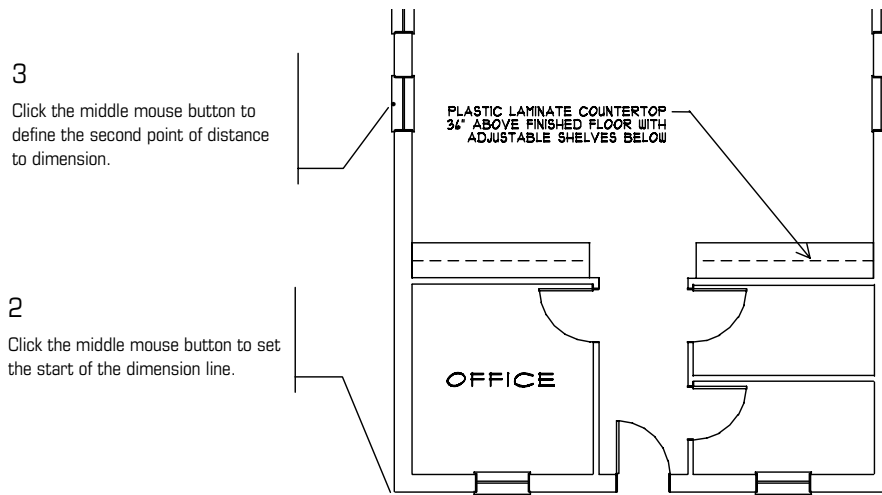

Figure 4.9: Placing the first dimension on the drawing
3. Move the cursor to the snap point of the window shown in Figure 4.9, and click the middle mouse button to snap to it. You are prompted with "Dimension which side of line?"